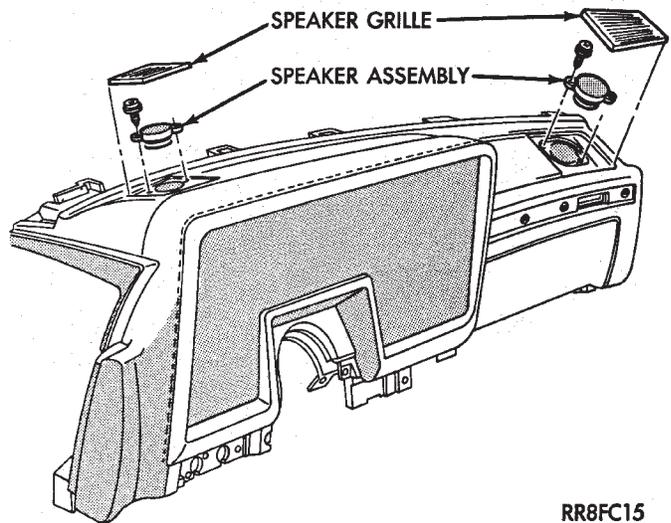

Fig. 32 Instrument Panel Speakers—AC and AY Bodies
- (1) Carefully, pry speaker grille away from instrument panel (Fig. 32).
- (2) Remove two speaker retaining screws.
- (3) Lift speaker away from panel and disconnect wiring.